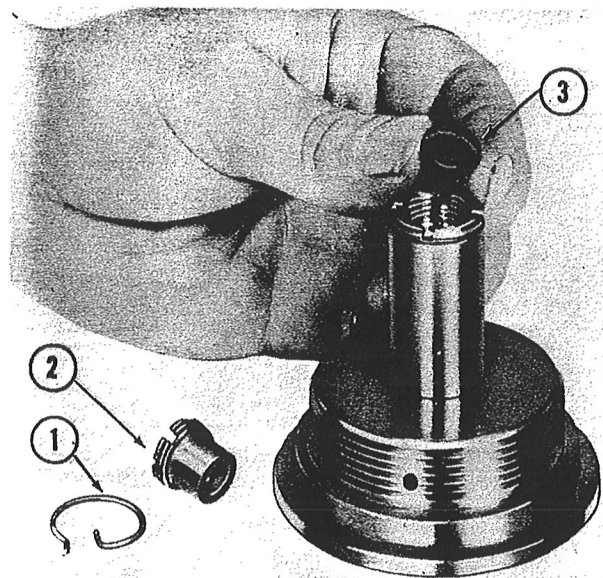

Figure 116—Installing Piston Transfer Packing
1. Install a new piston transfer packing in the piston head. (See figure 116.)